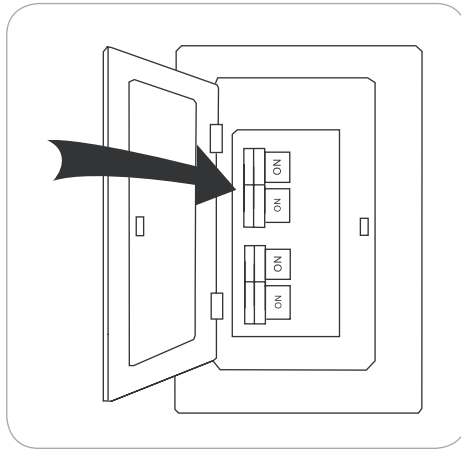

Figure 5.8
8. Turn on power to fan at breaker box and the wall switch (Figure 5.8). Assembly is complete.